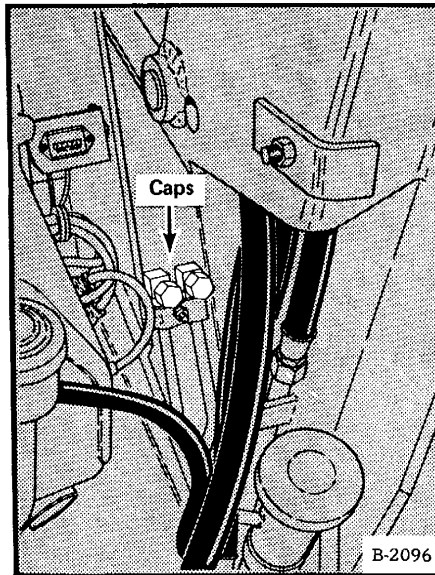
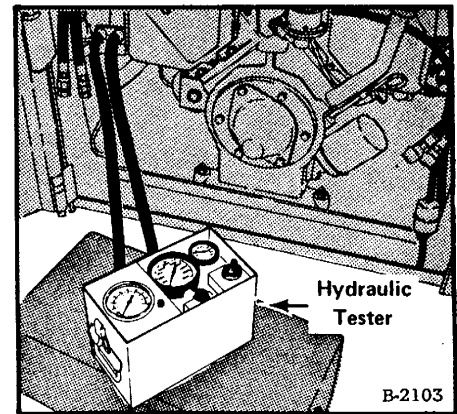

Fig. 2-10 Caps On Fittings
Fig. 2-11 Checking Hydraulic System
- (1) Activate the pedals with the engine stopped. This will release pressure from the system.
- (2) Open the grill. Disconnect the two hoses on each side, which go to the lift cylinders. Put covers on the hoses to keep dirt out of the system.
- (3) On one side, put caps on the tube openings (Fig. 2-10). On the other side, connect the hydraulic tester (Fig. 2-11). Turn the control knob on the tester fully counterclockwise.
- (4) Start the engine and run at full throttle. Push the heel of the left pedal down. If there is no reading on the flow gauge, push the toe of the pedal.
- (5) Turn the control knob on the tester fully clockwise. The release pressure must be within the specification (See Section 8).